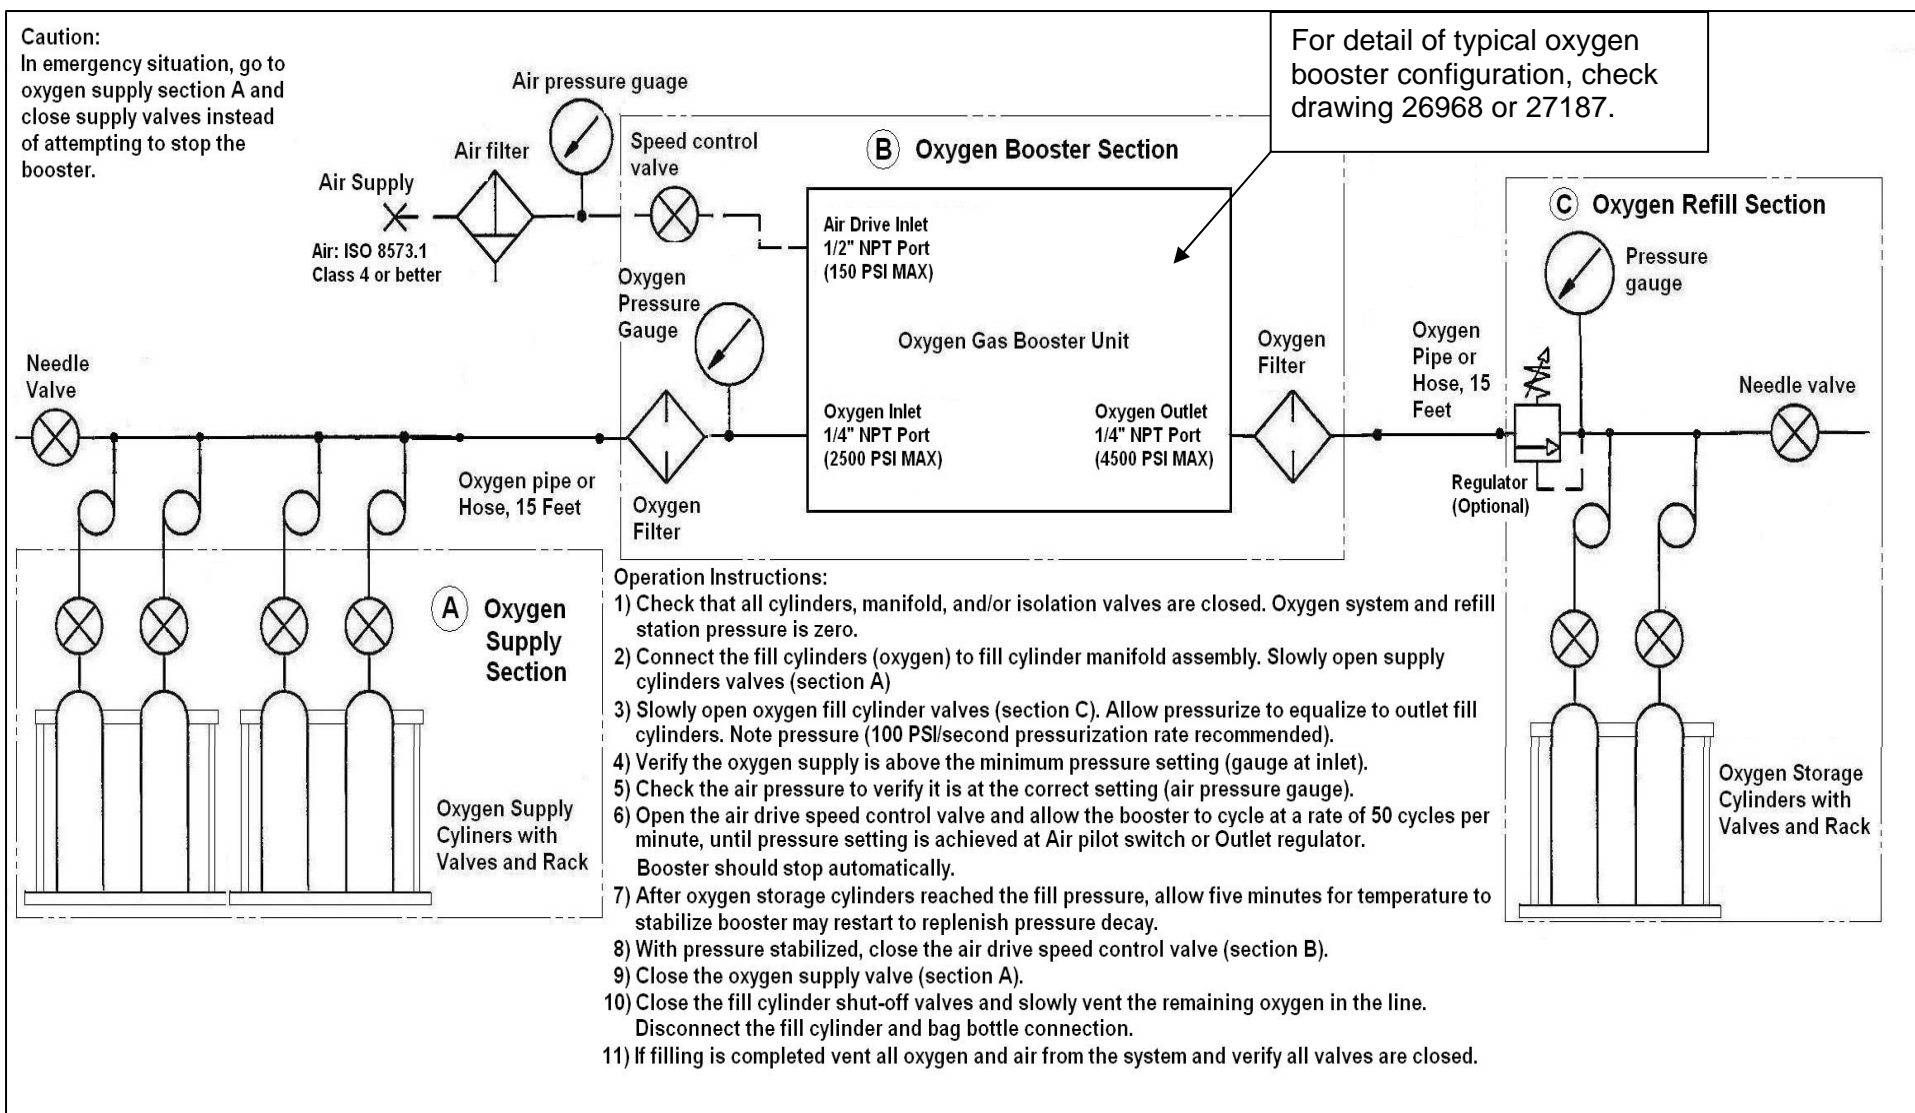

Fig. 2
5. Operation Instructions (Refer to Fig. 2 on Page 4)